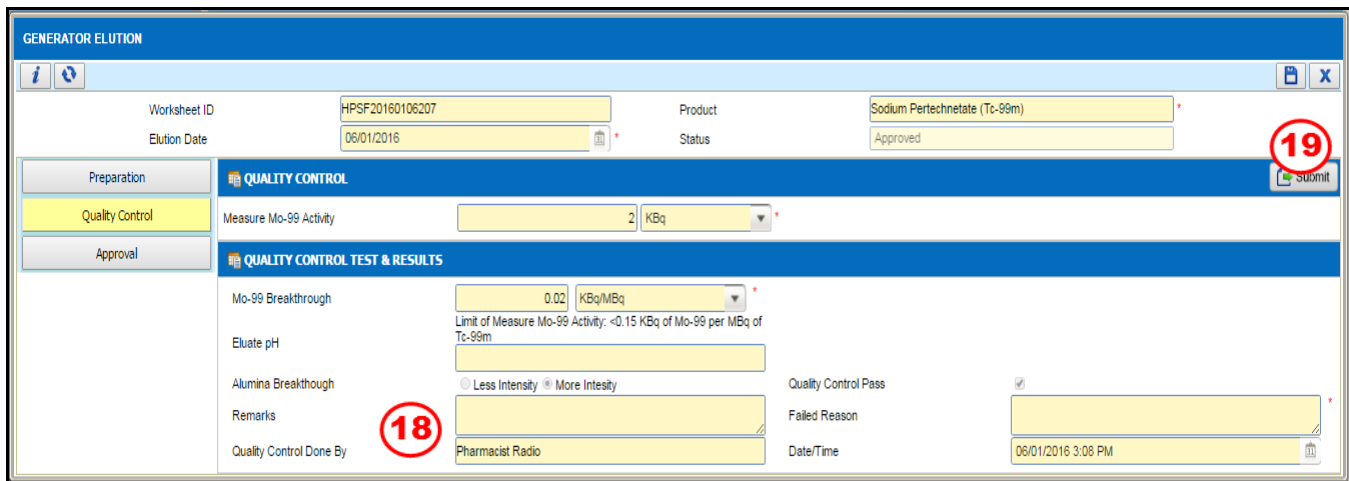

Figure 3.7.1-12 Generator Elution
If the selection of **Quality Control Pass, No**; **Failed Reason** field will be activated and user have to enter the reason of failure as per Figure 3.7.1-11.
- If the selection of **Quality Control Pass, Yes**; **Failed Reason** field will not activate as per Figure 3.7.1-12.